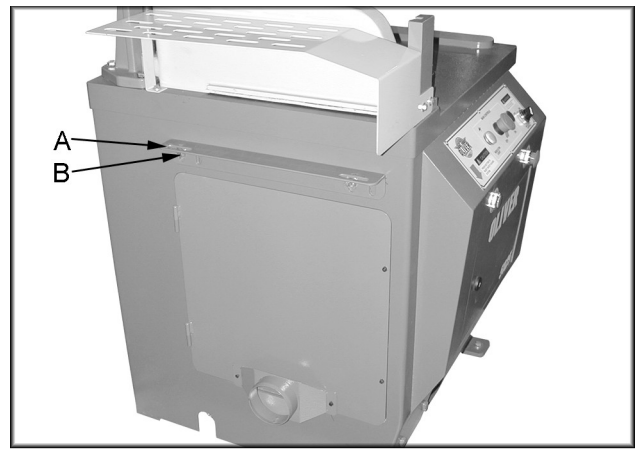

Figure 8
1. Mount an angle bracket (A, Figure 8) to the outfeed side of the saw using two hex cap bolts and two flat washers. Repeat for the infeed side.